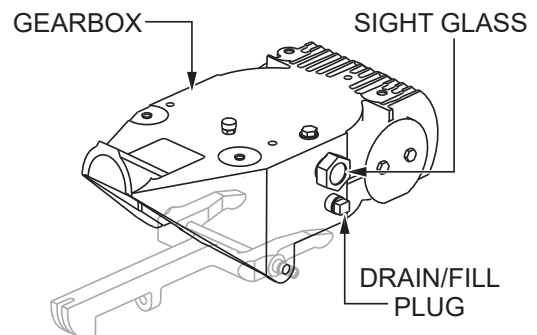

Figure 29. Gearbox Oil
1. Look at the sight glass on the side of the gearbox (Figure 29) to determine if gearbox oil is low. The correct oil level is to the halfway point on the sight glass.
2. If gearbox oil is low, remove the drain/fill plug (Figure 29) and fill with Mobil SHC™ 634 industrial synthetic gear oil until the correct oil level is reached. Replace the drain/fill plug when finished.